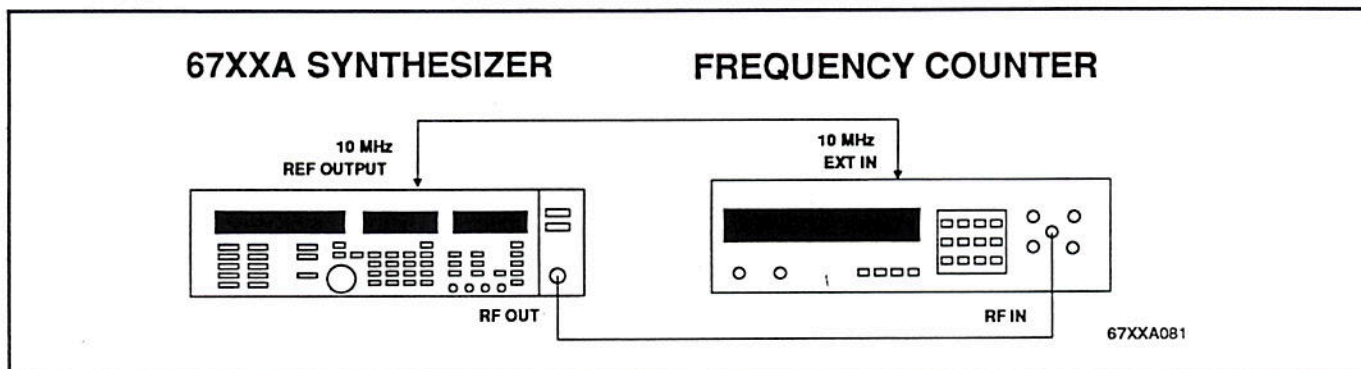

Figure 2-2. Equipment Setup for Frequency Synthesis Tests
1. Connect the equipment as shown in Figure 2-2.